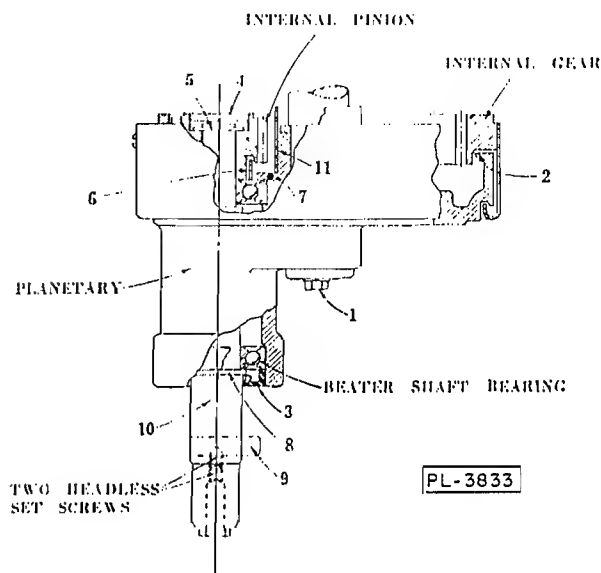

Fig. 5
Support the weight of the planetary while removing the retaining screw (1, Fig. 5). If the removal of the planetary proves difficult, use the two 3/8" tapped holes provided on opposite sides of the planetary shaft for anchoring a puller. The holes are plugged with nylon plugs.
If a pry is to be used between the planetary and the internal gear, always pry downward. The cast iron lip (2, Fig. 5) on top of the planetary is breakable. This lip serves as a trap for the oil and would have to be repaired if broken.
- (1) Remove the planetary as previously explained.
- (2) Take out the planetary oil seal (3, Fig. 5). This seal can be pried out by using a small screwdriver between the outside of the seal and the planetary casting.
- (3) Pry out the oil-retaining cap (4, Fig. 5) which is pressed into the top of the internal pinion. (Be sure to replace this cap when reassembling).
- (4) Remove the retaining ring (5, Fig. 5) and the pinion, then drive the beater shaft down through the bearings.
If the lower bearing does not come out with the beater shaft (10, Fig. 5) it can be pulled down after the beater shaft is out. The upper bearing can be pulled out after removal of the planetary oil baffle (6, Fig. 5).
When re-assembling the oil baffle to the planetary, a little Permatex around the "O" ring (7, Fig. 5) will improve the seal. Be careful not to cut the "O" ring on the edge of the planetary or baffle.
The primary purpose of the seal (3, Fig. 5) is to keep moisture and ingredients from the bowl out of the lower bearing. It can be slipped down from the top of the shaft and over the small shoulder (8, Fig. 5) if care is taken. Grease the shoulder so that the seal will slide over it. If installing the seal from the bottom, you must remove the beater pin (9, Fig. 5), clean the shaft, and make sure that the lip of the seal is not cut or folded under. The lip must go up toward the bearing. Make sure that the spring is in place in the seal groove adjacent to the lip. If the lip of the seal is dry, the seal may squeal. A little lubrication worked under the lip will correct this.
The shield (11, Fig. 5) is held in place around the hub of the planetary by friction.
The planetary oil shield (11, Fig. 5) keeps oil from collecting on the hub and working down the planetary shaft.
The oil baffle (6, Fig. 5) keeps oil away from the beater shaft as it is thrown off the pinion teeth or sloshes around in the planetary.
The friction plug (4, Fig. 5) stops any oil leakage from above.